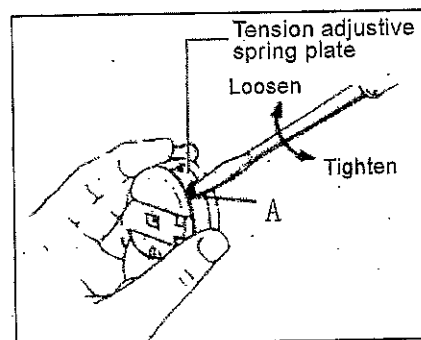

Fig.14
- 2) To adjust the lower thread tension by turning adjustable screw A in Fig.14.